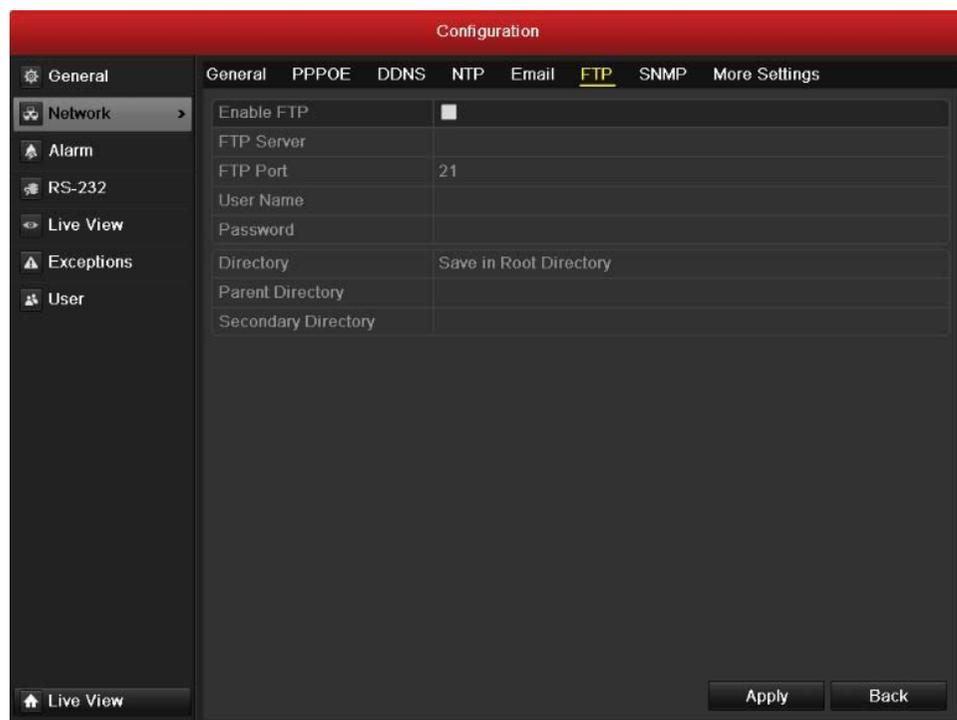

Figure 10.10 FTP Settings Interface
2. Select the **FTP** tab to enter the FTP Settings interface, as shown in Figure 10.10.